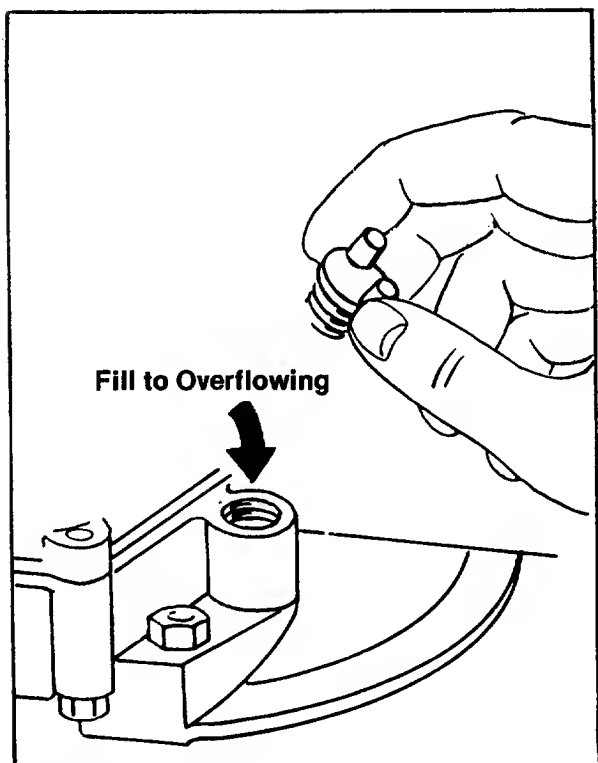

FIGURE 16. OIL FILL
Check the oil level in the crankcase before each use of the machine and after every two hours of operation. Keep the oil level to the overflowing point. See figure 16.
- Step 3. With the machine on level ground, remove the oil filler plug. See figure 16. Fill the crankcase until the oil overflows from the oil fill hole. Fill slowly to avoid air locks. The crankcase holds approximately 1¾ pints of good quality SAE .30 type MS engine oil. Replace the oil filler plug.